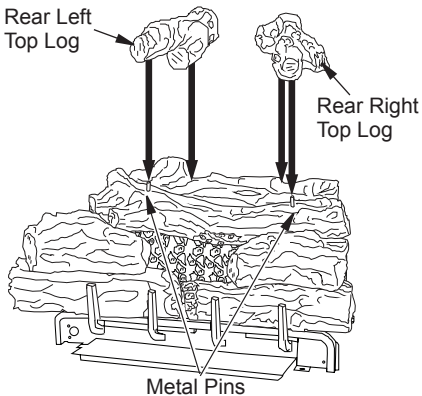

Figure 45 - Installing Rear Left Top Log and Rear Right Top Log
- Place the rear left top log on top of the middle log and the rear log. Match the pin on the middle log with the round hole in the bottom of the rear left top log (see Figure 45). The rear log has a flat area for the back of the rear left top log to set in.
- Place the rear right top log on top of the middle log and the rear log. Match the pin on the middle log with the round hole in the bottom of the rear right top log (see Figure 45). The rear log has a flat area for the back of the rear right top log to set in.